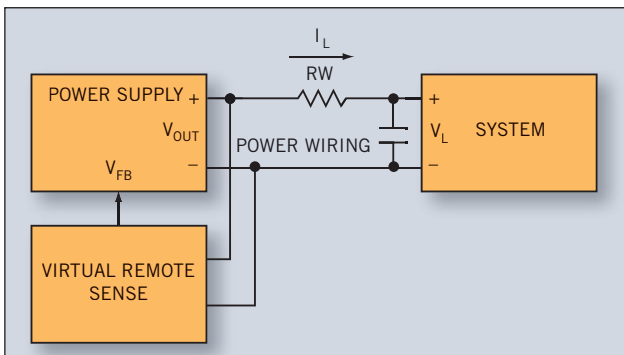

Fig. 3. Typical application of the LT4180 provides virtual remote sense for a flyback converter connected to a distant load ( $R_L$ ).
In the application shown in Fig. 3, The LT4180 continuously interrogates the line impedance and corrects the regulator's output voltage. The IC maintains a corrected, regulated voltage at the load regardless of current or line impedance. Virtual Remote Sense takes over control of the power supply via its feedback pin (FB) that drives the optocoupler. The VRS circuit maintains tight regulation of load voltage at RL.